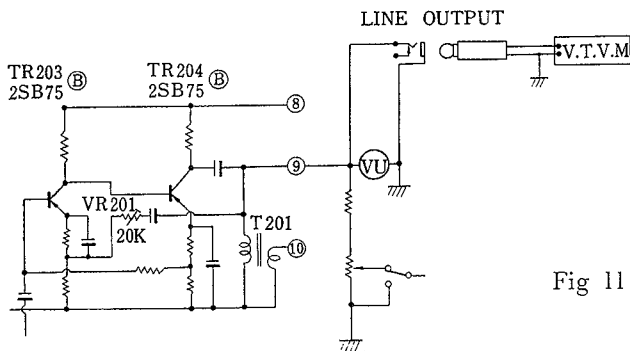

Fig 11
- Connect VTVM (use one with Milli-Volt scale) to line output as shown in Fig. 11.